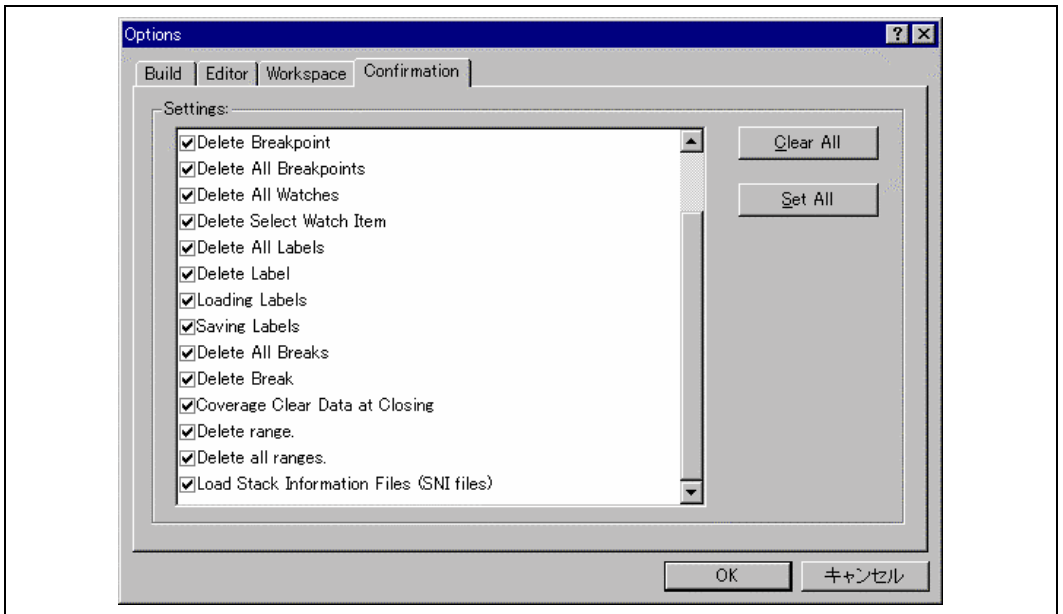

Figure 4.67 Options Dialog Box
- The [Load Stack Information Files (SNI files)] check box is checked in the [Confirmation] sheet of the [Options] dialog box (figure 4.67) that can be opened by choosing [Tools->Options] from the main menu.